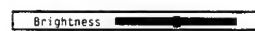

Fig. 31.
- 2 Using Δ + or ∇ -, select the item you want to adjust and press OK. The selected item changes colour. (See Fig. 31)